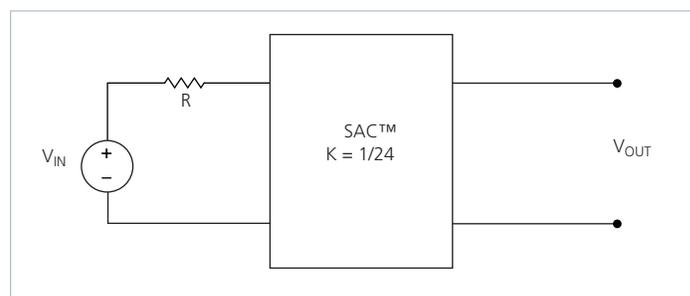

Figure 21 — K = 1/24 Sine Amplitude Converter with series input resistor
The use of DC voltage transformation provides additional interesting attributes. Assuming that R_{OUT} = 0 Ω and I_Q = 0 A, Eq. (3) now becomes Eq. (1) and is essentially load independent, resistor R is now placed in series with V_{IN} as shown in Figure 21.
Assuming that $R = 1 \Omega$, the effective R as seen from the secondary side is $1.74 \text{ m}\Omega$, with $K = 1/24$ as shown in Figure 21.